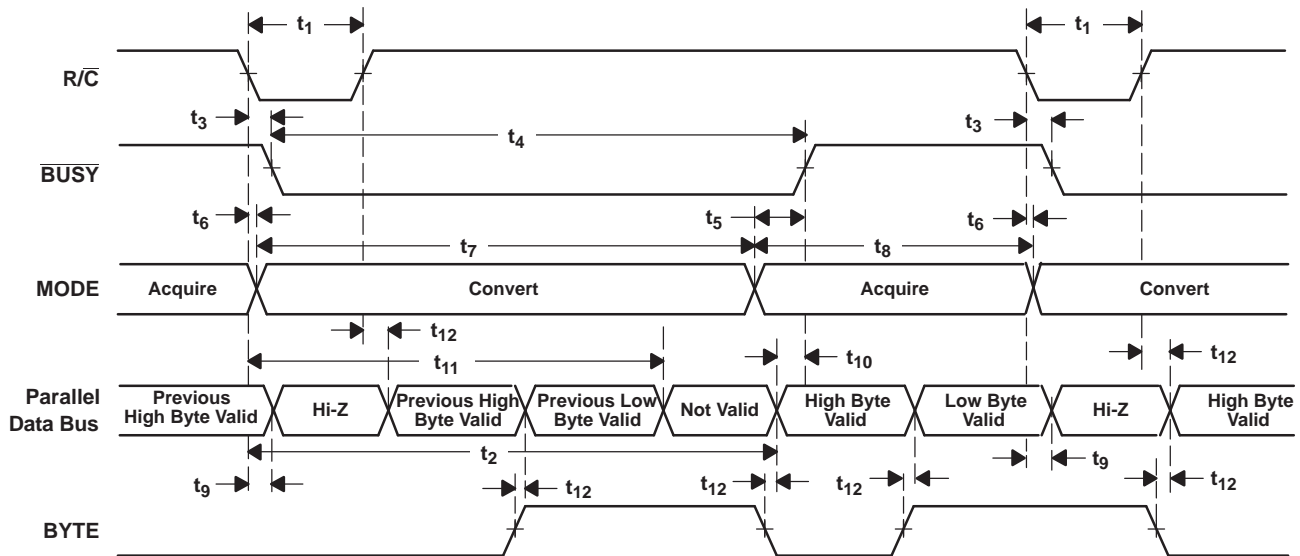
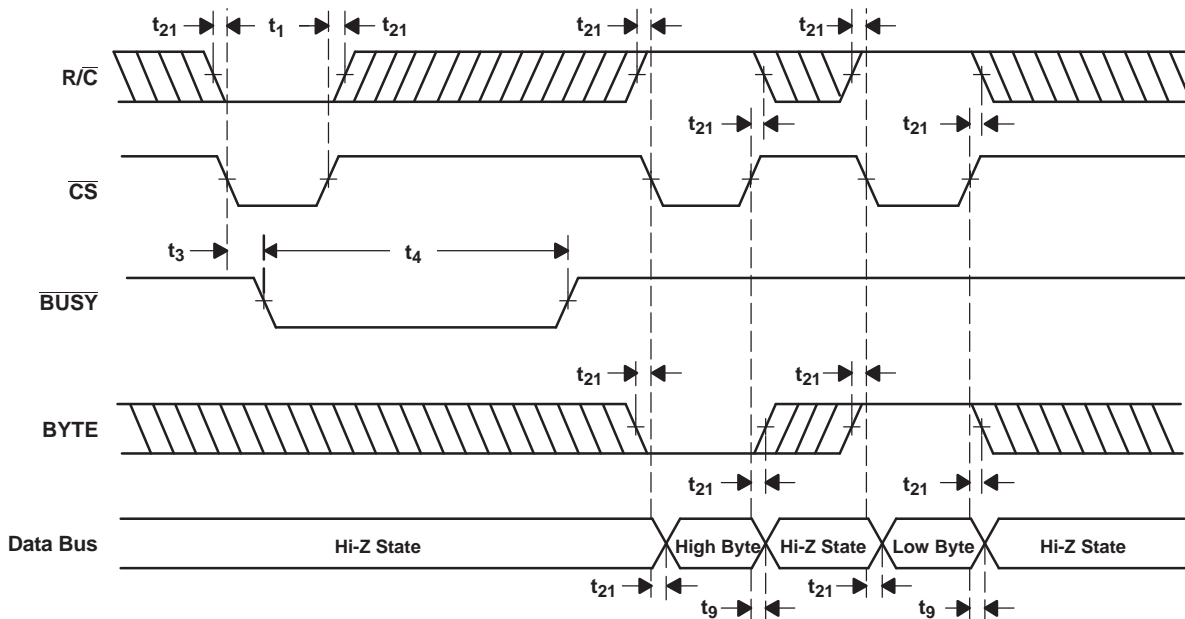

Figure 33. Conversion Timing With Parallel Output (CS and DATACLK Tied Low, EXT/INT Tied High)
Figure 34.  $\overline{CS}$  to Control Conversion and Read Timing With Parallel Outputs
The ADS8507 begins tracking the input signal at the end of the conversion. Allowing 25  $\mu$ s between convert commands assures accurate acquisition of a new signal. Refer to Table 2 and Table 3 for a summary of  $\overline{CS}$ ,  $R/\overline{C}$ , and  $\overline{BUSY}$  states, and Figure 33, Figure 34, Figure 35, Figure 36, Figure 37, Figure 38, and Figure 39 for timing diagrams.
(1) See Figure 33 and Figure 34 for constraints on data valid from conversion *N*–1.
After conversion *N* is completed and the output registers have been updated, BUSY (pin 24) goes high. Valid data from conversion *N* is available on D7-D0 (pin 9-13 and 15-17). BUSY going high can be used to latch the data. Refer to Table 5 and Figure 33 and Figure 34 for timing specifications.
After conversion  $N$  has been initiated, valid data from conversion  $N-1$  can be read and is valid up to  $12\ \mu\text{s}$  after the start of conversion  $N$ . Do not attempt to read data beyond  $12\ \mu\text{s}$  after the start of conversion  $N$  until  $\overline{BUSY}$  (pin 24) goes high; this may result in reading invalid data. Refer to Table 5 and Figure 33 and Figure 34 for timing constraints.